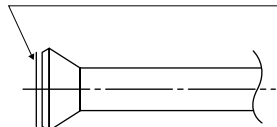

Fig. 7
- Apply ester oil or ether oil around the flare portions before connecting. (Refer to Fig. 7)
- When connecting the flare nut, apply ether oil or ester oil only to inner side of the flare, rotate three or four times first, then screw in. (Refer to Fig. 7)